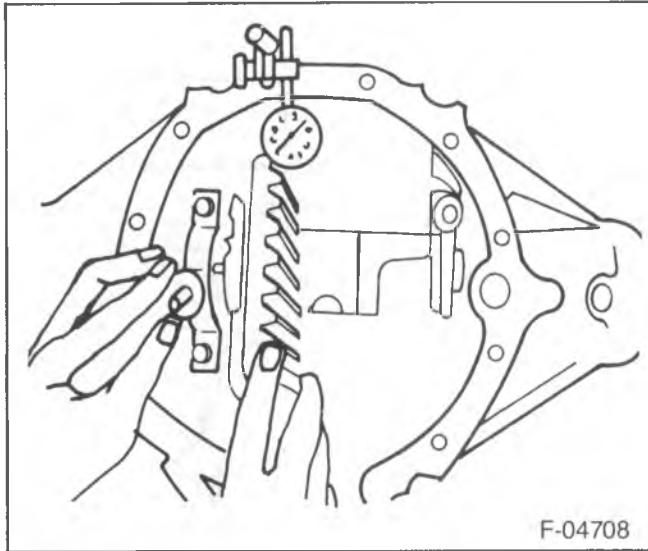

Figure 20—Installing Side Bearing Gaging Tools
4. Insert J 22779 between the axle housing and the left bearing cup (figure 20).